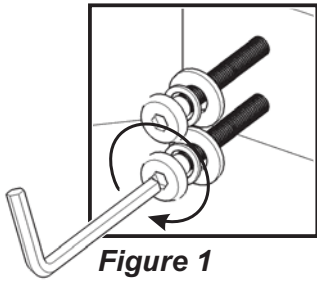

Figure 1
Attach Seat (A) to Back Frame (G) with Flat Washers, Spring Washers, Head Cap Bolts (long) and Head Cap Bolts (short). (See Figures 1 and 2)